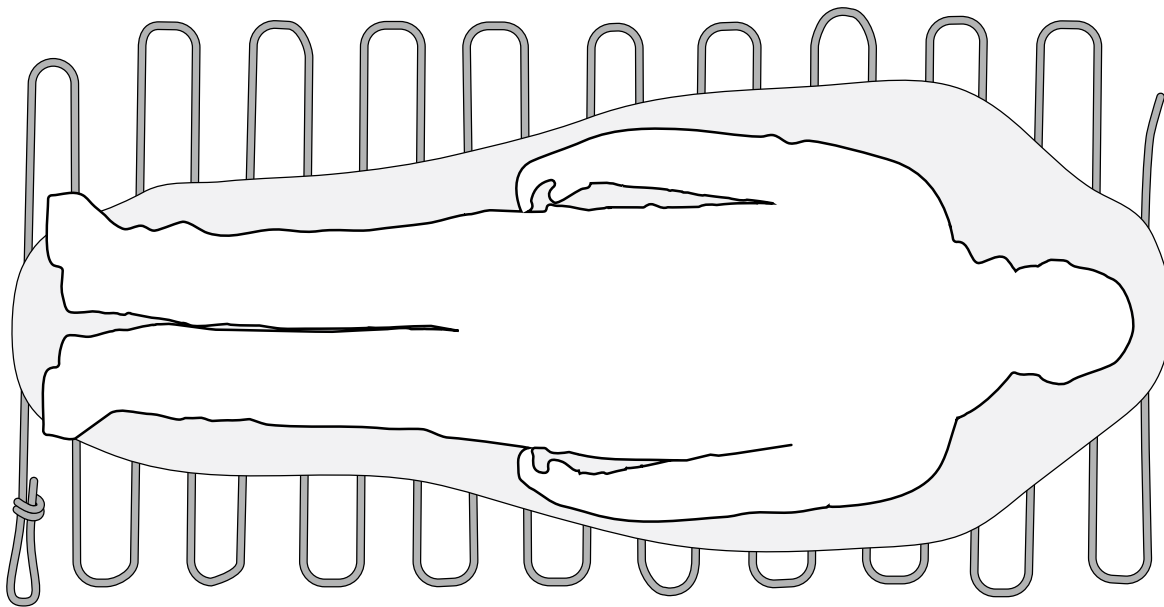

Figure 8-7. Placing the Casualty on the Rope.
2. Place padding, such as an improved sleeping mat or sleeping bag, on top of the bights and then lay the casualty on the padding and bights, as shown in Figure 8-7. The litter can be made rigid by adding poles, sticks, or skis.